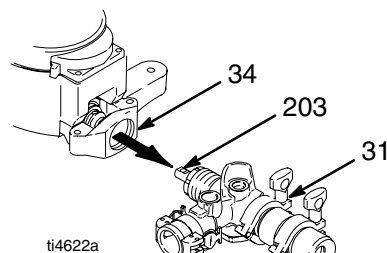

Fig. 10
11. Fig. 10. Unscrew pump (31) from bearing housing (34).
2. Fig. 10. Screw retaining nut (27) onto pump until it stops. Screw pump (31) into bearing housing (34) until pump stops. Unscrew pump until pump outlet is 13° from horizontal, but no more than one turn.